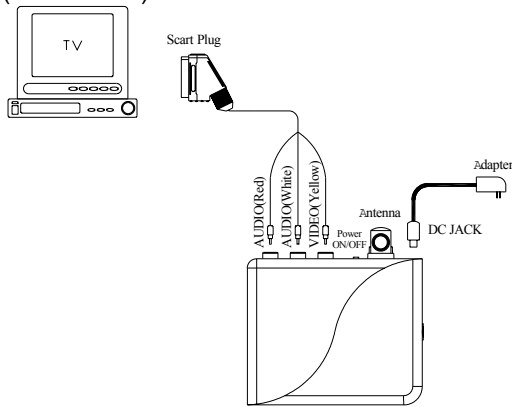

FIGURE 21
2. Plug the other end, yellow (video), white (audio) and red (audio) RCA connectors into the corresponding RCA connectors on the Receiver. (FIGURE 21)